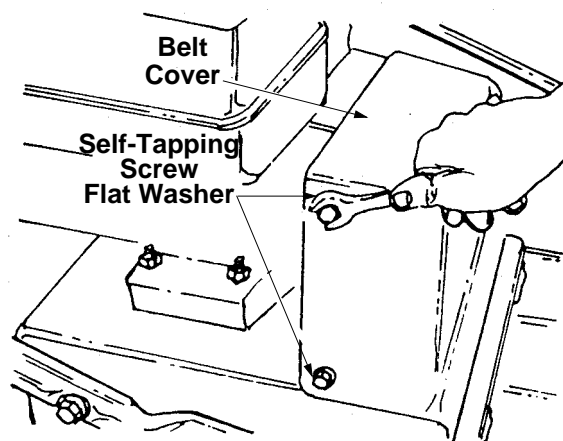

Figure 16
2. Remove the plastic belt cover on the front of the engine by removing three self-tapping screws and flat washers. See Figure 16.